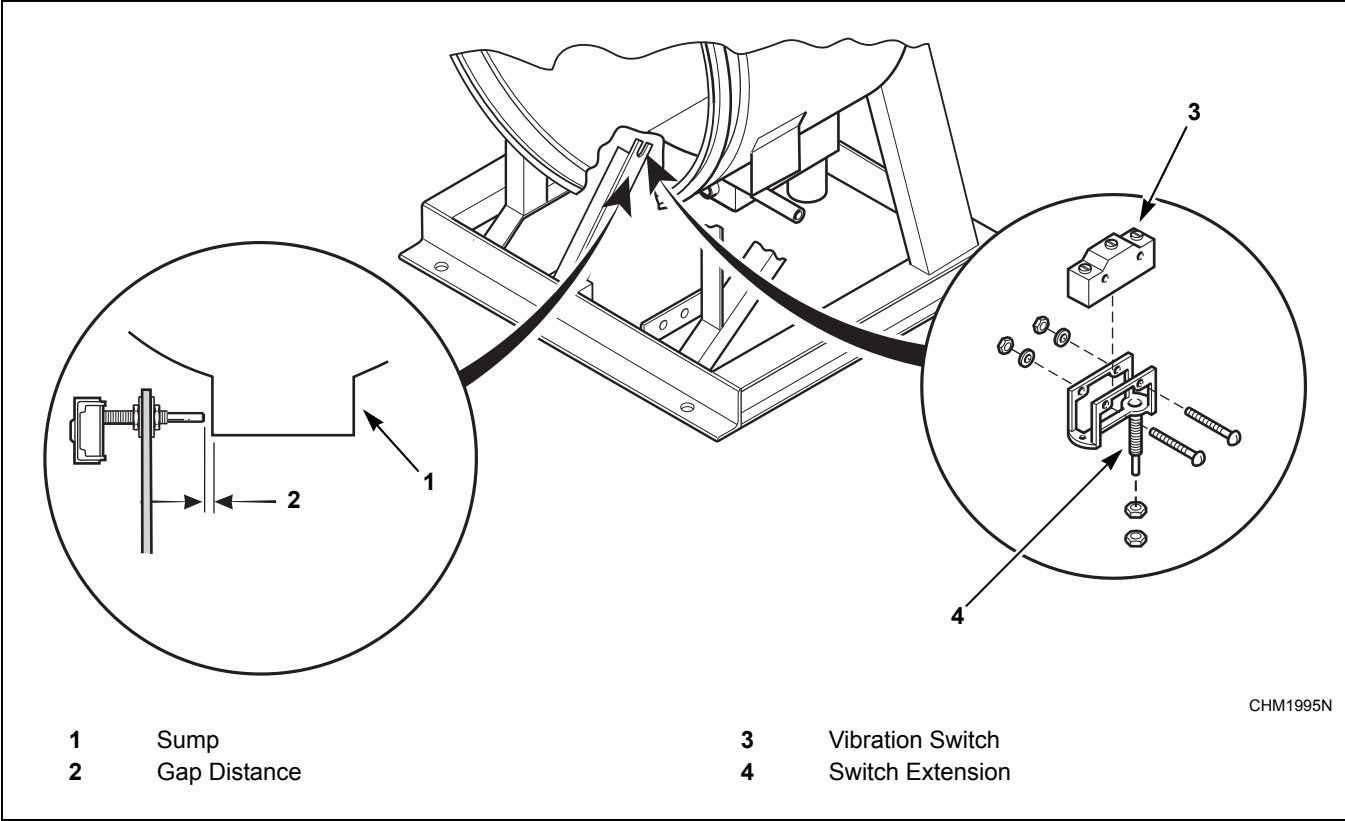
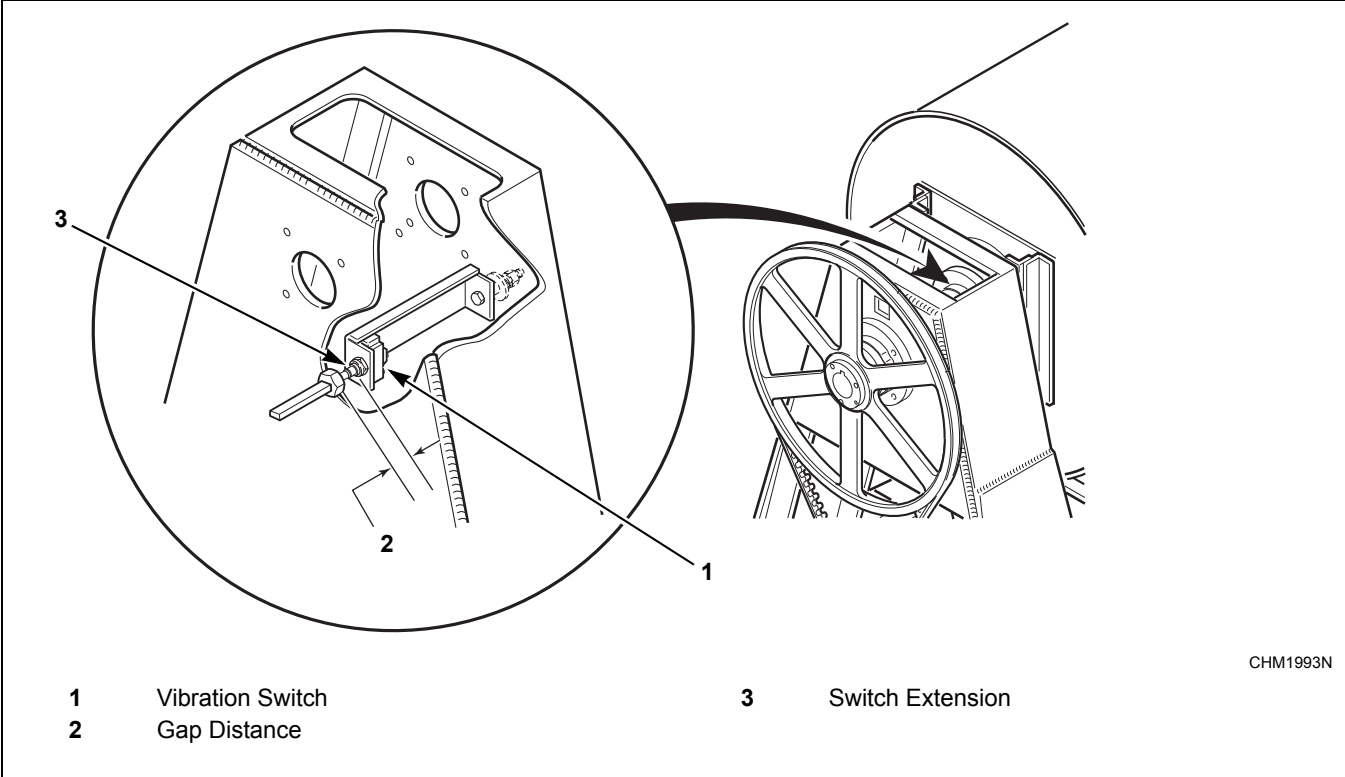

Figure 33
Figure 37
After the machine has been properly installed, the vibration switch gap must be measured before conducting the Control Function Test. Locate the gap found between the vibration switch and the machine structure. Refer to *Figure 33* through *Figure 37*. To check the gap setting of the switch, proceed as follows:
1. Remove the front panel on 18-50 models. Remove the rear panel on 60-80 models. Remove the top cover on the 125 model. The switch can be seen inside the bottom right corner of the A-frame, mounted on a bracket. Refer to *Figure 33* through *Figure 37*.